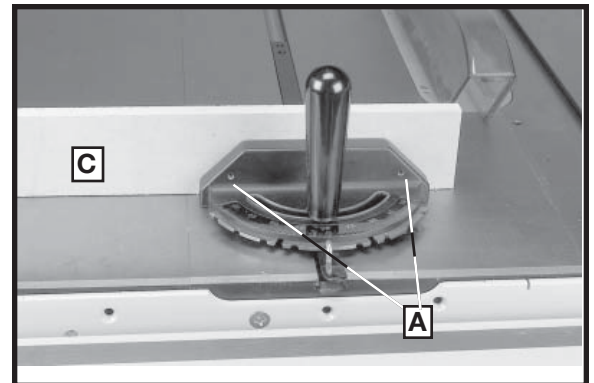

Fig. S3
For added safety and convenience the miter gauge can be fitted with an auxiliary wood-facing (C), as shown in Fig. S3, that should be at least 1 inch higher than the maximum depth of cut, and should extend out 12 inches or more to one side or the other depending on which miter gauge slot is being used. This auxiliary wood-facing (C) can be fastened to the front of the miter gauge by using two wood screws (A) through the holes provided in the miter gauge body and into the wood-facing.